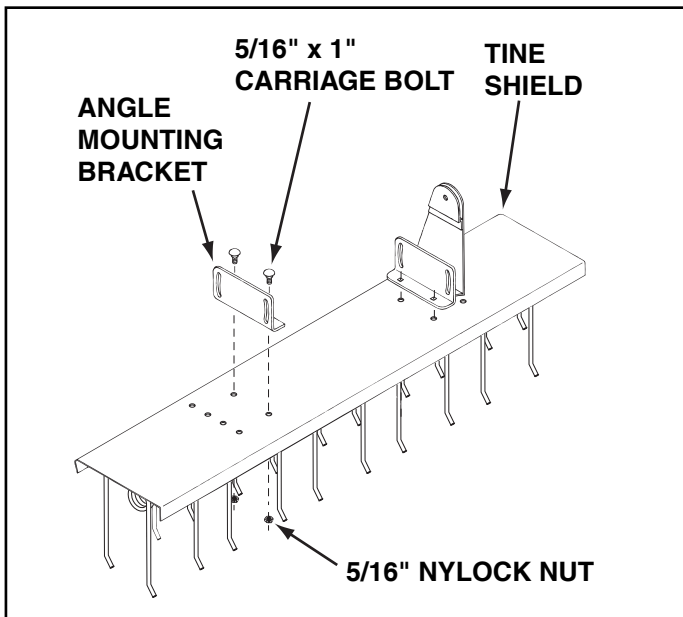

FIGURE 2
2. Assemble angle mounting brackets to tine shield using four 5/16" x 1" carriage bolts and 5/16" nylock hex nuts. **Tighten**. See figure 2.